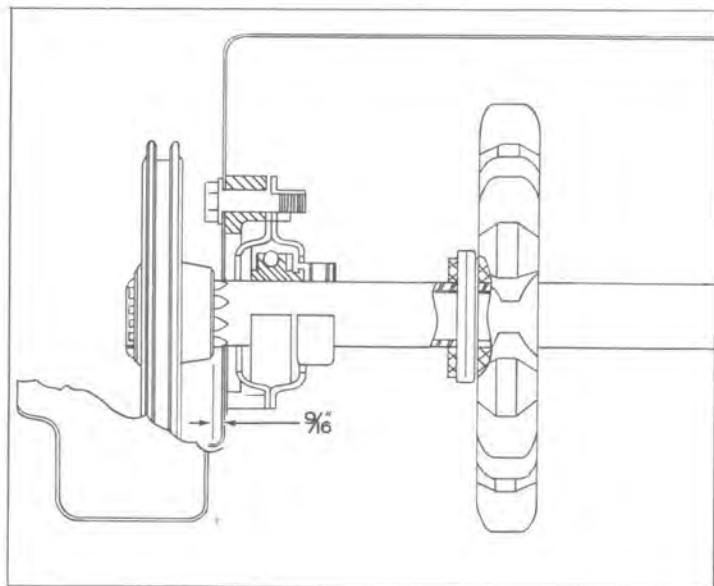

Figure 1
1. Adjust the axle to the right or left until a measurement of  $9/16"$  between the outside of the frame and the drive chain sprocket retaining ring is attained. (See Fig. 1.)